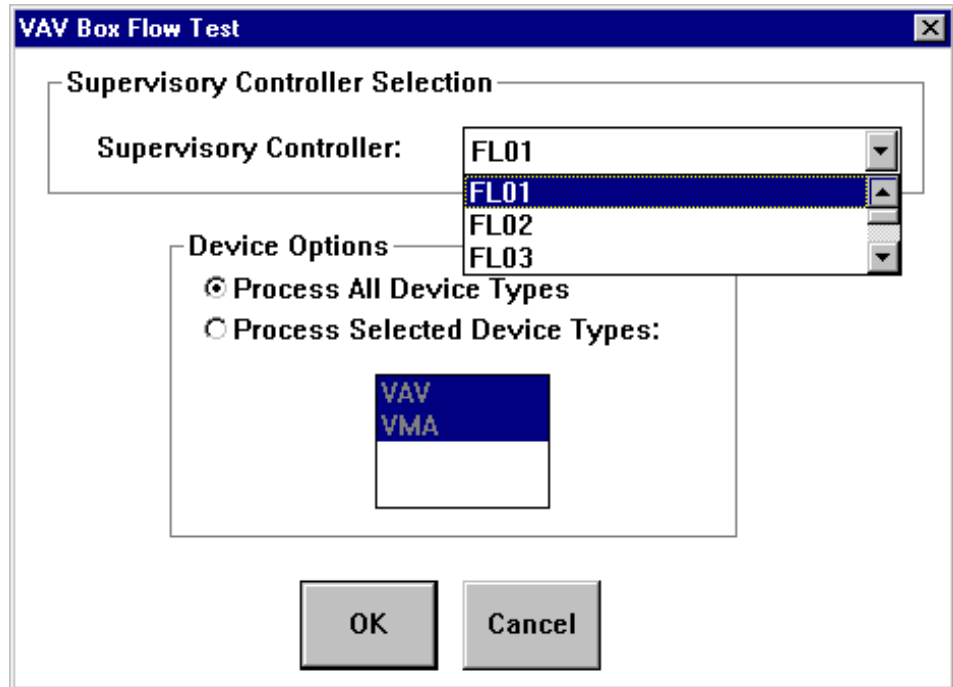

Figure 17-20: VAV Box Flow Test Dialog Box
3. Select the Flow Test Parameters, and then click OK. The dialog box shown in Figure 17-20 appears.